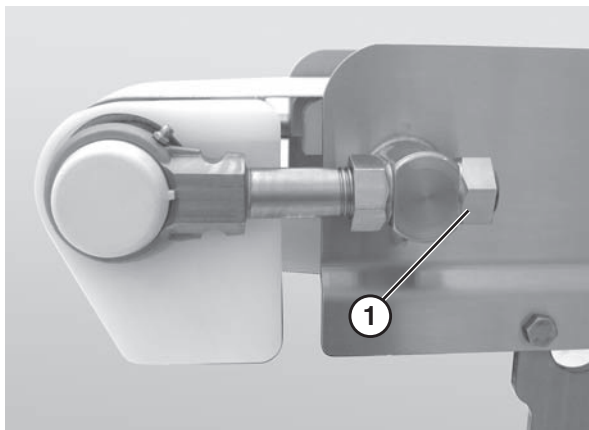

Figure 47
1. Loosen the back nuts (**Figure 47, item 1**) on both sides of the idler tail shaft.